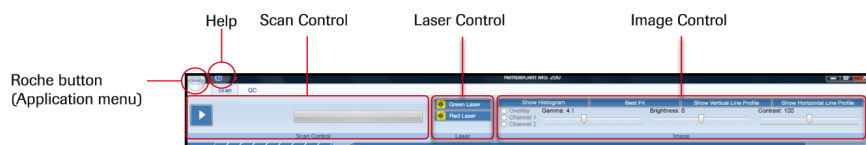

Figure 14: Top of Data Collection Workspace, showing Scan Control, Laser Control, and Image Control
2. Click the **Green Laser** and **Red Laser** buttons in the Laser Control (Figure 14) to switch on the lasers. Allow lasers to warm for 10 minutes.